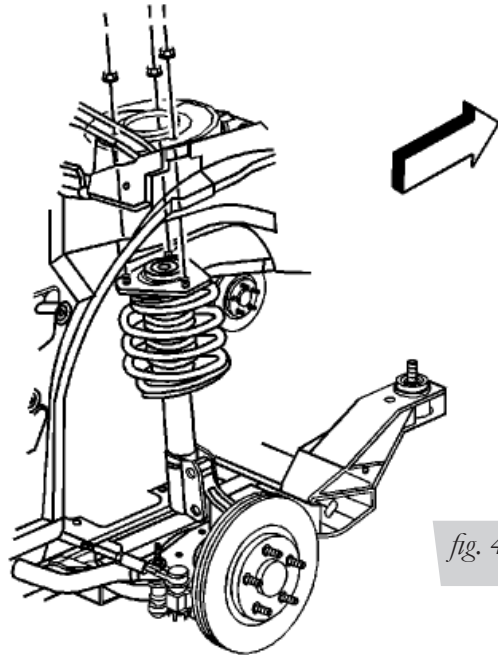

fig. 4
5. Remove the three upper strut mounts from within the engine compartment (fig. 4).
2. Remove the thread protectors (G) from the upper mount studs. Insert strut assembly into the strut pocket and attach the upper mount through the original mounting position with the supplied washers (E) and nuts (F). Torque to 22 Nm (16 ft./lbs.) (fig. 4).